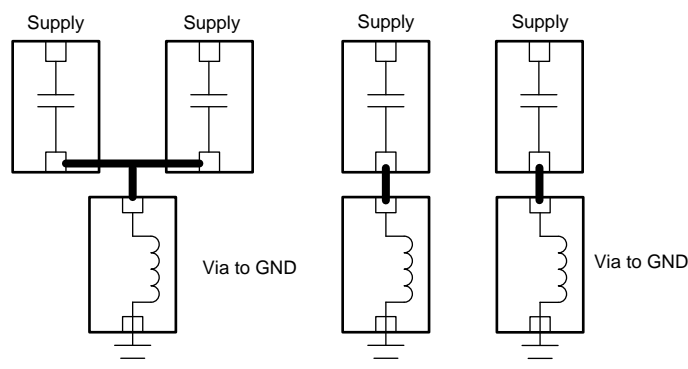

Figure 10. Decoupling Capacitors and VIA to Ground
- Each decoupling capacitor should have a separate via to ground to minimize noise coupling (see Figure 10)